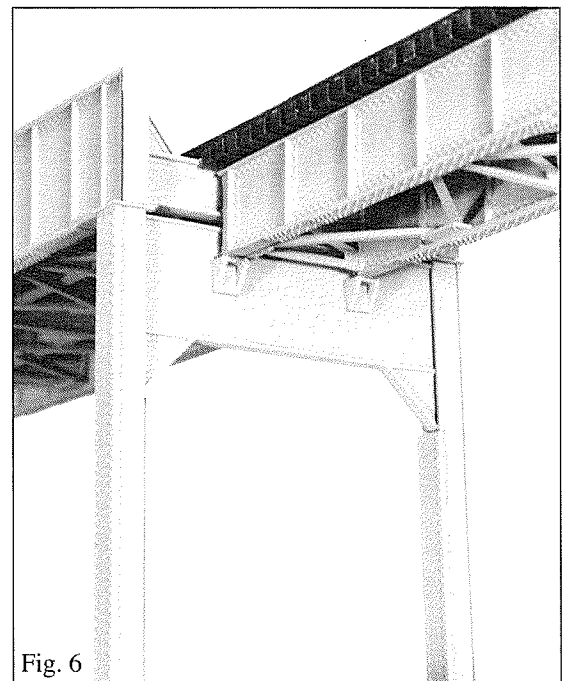

Fig. 6
1. Place two **leg halves** ⑪ on edge and cement together at the two spacers. Repeat with two more **leg halves**. Insert one end of a **cross-girder** ⑫ halfway into the first leg assembly and cement it to the spacers and the edges of the legs. Cement the opposite end of the **cross-girder** into the second leg assembly. Be sure the **cross-girder** is square to the leg assemblies (see fig. 6).
2. You have your choice of finishing the legs with **leg cross-lacing** ⑬ or more modern looking **leg rivet plates** ⑭. Cement the short **leg cross-lacings** (or **leg rivet plates**) to the inside of the leg assemblies and the long **leg cross-lacings** to the outside of the leg assemblies. Be sure the cross-lacing is flat and seated properly on the leg edges.
3. Cement a **bearing plate** ⑮ to the top and bottom of each leg. The bridge support is now complete. Fabricate the other bridge support. If building the 160' bridge, fabricate two more bridge supports.
1. Place a deck girder assembly against the end of a thru girder assembly, centered side to side, with the top of the **girders** flush with the top of the **crossbeam**. With a scribe mark the location of the bottom edge of both **girders** on the face of the bridge support. Cement a **girder support** (16) at each marked location so they will be centered on the bottom edge of the **girders** and will support the deck girder span at the correct height (see fig. 6). Repeat at the other end of the thru girder span(s).
3. Cement a **bridge shoe** (17) to the bottom of each girder at one end of the deck girder spans. You may want to assemble the remainder of the bridge on your layout or you can assemble the entire bridge before placing it on the layout using the bridge track to support the two end spans. Whichever method you use, one end of the deck girder spans will be cemented to the girder supports, while the other end (the end with the **bridge shoes**) will be cemented to bridge abutments on your layout. Use a straight edge to be sure the top surface of the spans are in good vertical alignment. The bridge support legs should be cemented to bridge piers or some sort of footing.